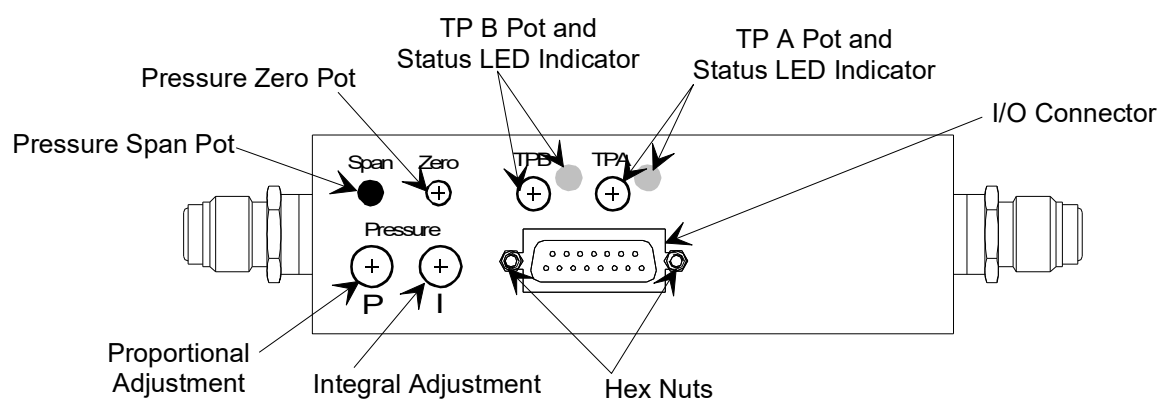
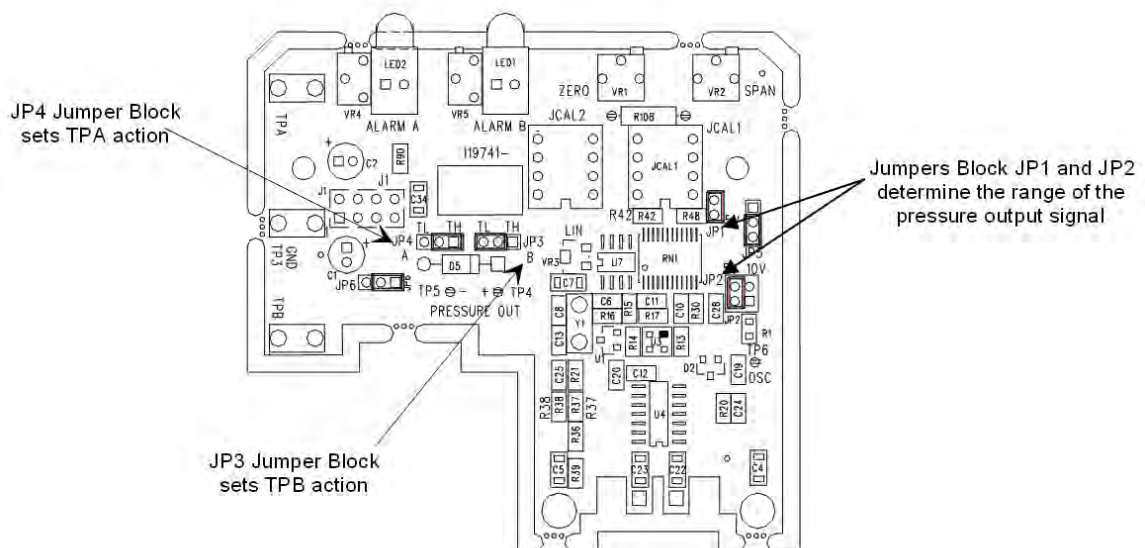

Figure 6 - Top View
Figure 14 - Jumper Positions on the Transducer Board
The 649B controller has one 15-pin, male Type "D" connector that provides the pressure output, setpoint input, and trip point output signals. Refer to Figure 6 for the location of the connector.
Figure 6 shows the top view of the 649 pressure controller. The user adjustable controls for pressure zero, pressure span, the P term, the I term, and the trip points are located on the top of the controller. The trip point settings can be measured through two test jacks, located under the enclosure, on the Transducer board. Refer to Figure 14 for the location of the test jacks.
The Proportional (P) term adjustment is located on the top of the 649 unit, as shown in Figure 6, page 47. The control is a 10-position dial, though it uses only 8 values. The last positions, 8 and 9, repeat
The Integral (I) term adjustment is located on the top of the 649 unit, as shown in Figure 6, page 47. The control is a 10-position dial where the 0 setting has the *longest* integration time; the 9 position setting has the *shortest* integration time. The initial setting is 0.
The 649B controller provides two trip points (Trip Point A and Trip Point B). Each trip point operates independently and controls an open collector output that can be connected to an external relay. Each trip point has an adjustment pot, a status LED, and a test jack. Refer to Figure 6. for the location of the trip point adjustment pots and LEDs. The test jacks are located inside of the unit, under the enclosure, as shown in Figure 14. Refer to *How to Adjust the Trip Point Values*, page 59, for instructions on changing the trip point values.
Each trip point has a test jack that allows you to measure the trip point setting. The test jacks are located inside the unit. Figure 14 shows the location of the test jacks and a ground connection. The trip point adjustment pots, located on the top of the unit, allow you to vary the trip point setting.
4. Locate the jumper blocks labeled “JP4” and “JP3” in the middle of the Transducer board. Refer to Figure 14 for the location of the jumper blocks.
The ground connection and the test jacks are located inside the unit on the Transducer board, as shown Figure 14. A 0 to 5 V signal corresponds to a 0 to 100% full scale pressure.
Refer to Figure 14 for the location of the "JP2" jumper block.